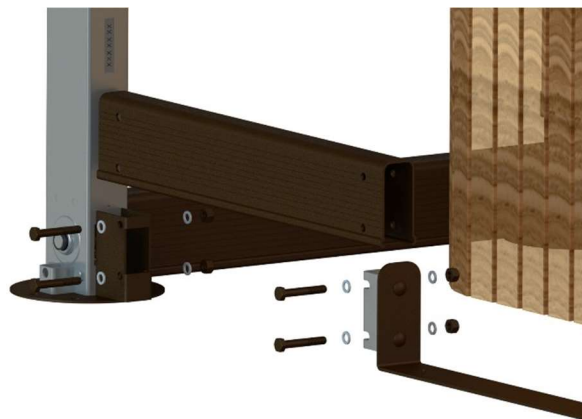

Figure 59
15) Fasten a short U-frame to each end of the front frame cut-out and then install the entire assembly between the front posts. Use four hexagonal 5/16"-18 x 2" bolts, four 5/16"-18 nylon-insert lock nuts and eight 5/16" plastic washers per side. Use 1/2" (13 mm) socket wrench and spanner. (Figure 59)